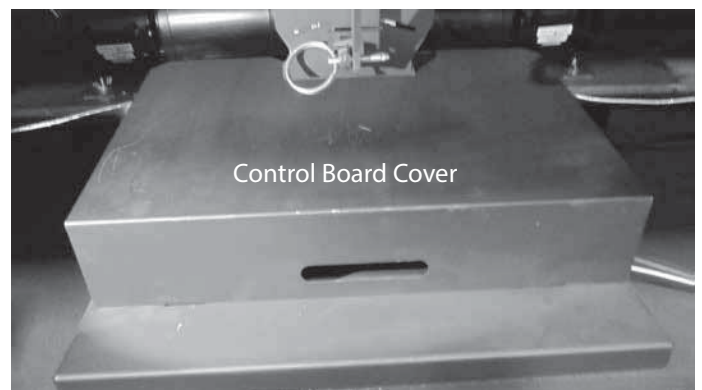

Figure 3.19 Control Board Cover
2. Remove the control board cover. See Figure 3.19